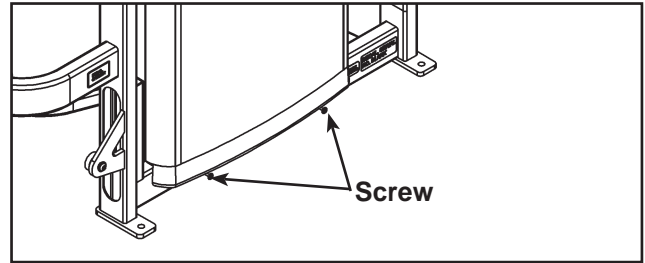

Figure 14
- A. Carefully place shroud back into position on the two bottom screws. See Figure 14.